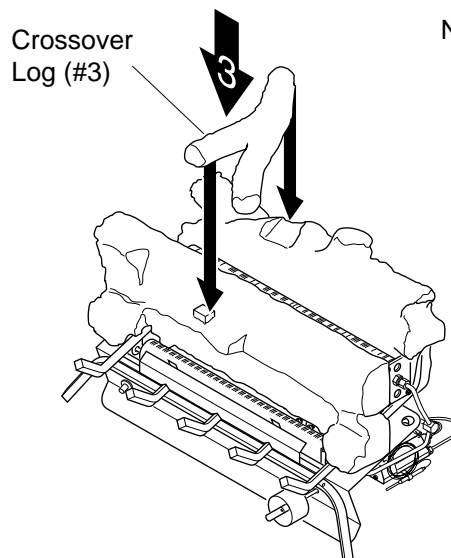

Figure 18 - Installing Crossover Log
3. Place crossover log (#3) into place (see Figure 18). Be sure to place back of crossover log into notch on left side of rear log. The indentation under front right fork of crossover log must rest on rectangular knob of front log.